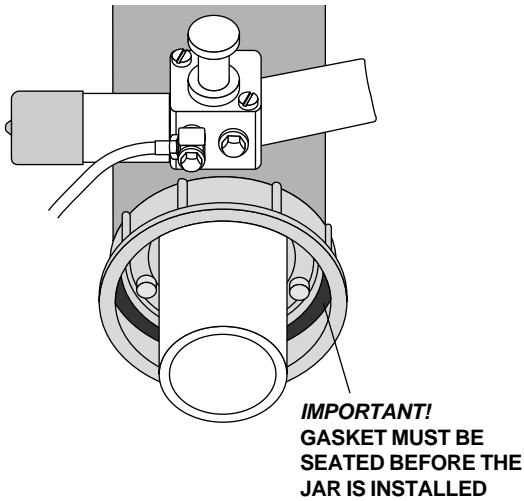

FIGURE 10
5. Screw the solids separator jar onto the bottom of the vacuum drain assembly. Be sure the gasket is properly seated (see Figure 10).